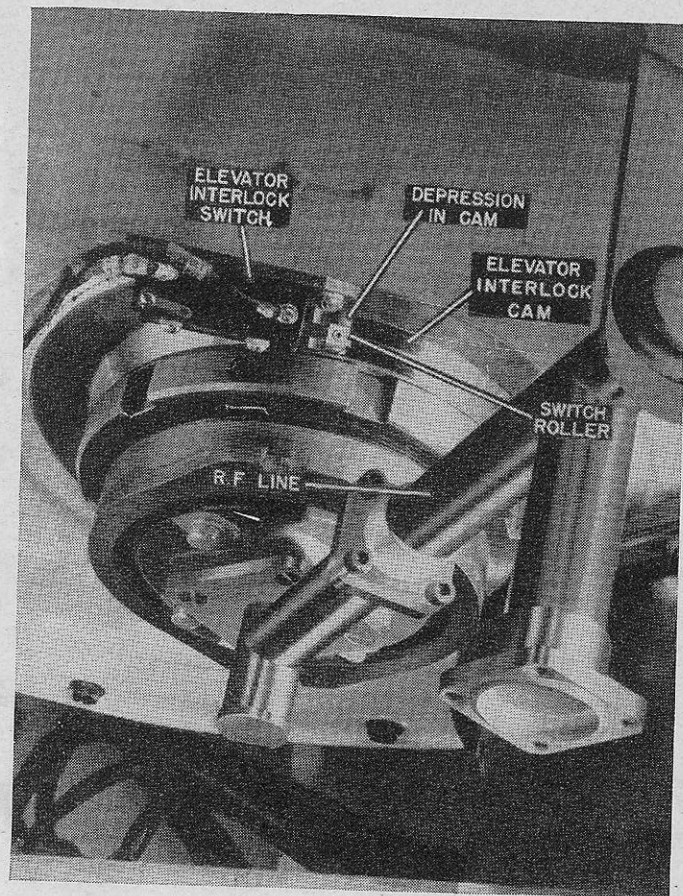

FIGURE 50.—Pedestal stowing interlock.
e. With the azimuth handwheel on the antenna position control unit, rotate the antenna in azimuth until the roller of the elevator interlock switch is seated in the center of the depression on the elevator interlock cam. (See fig. 50.)